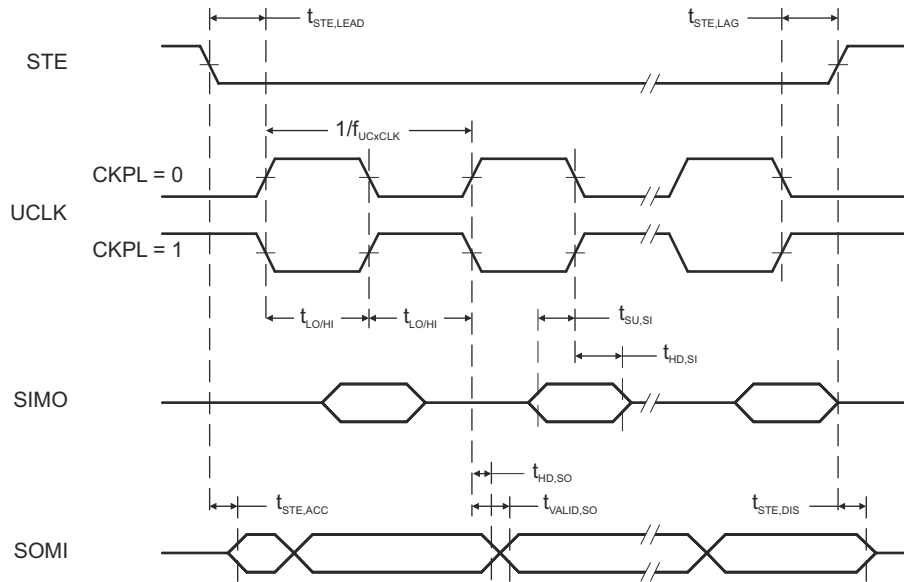
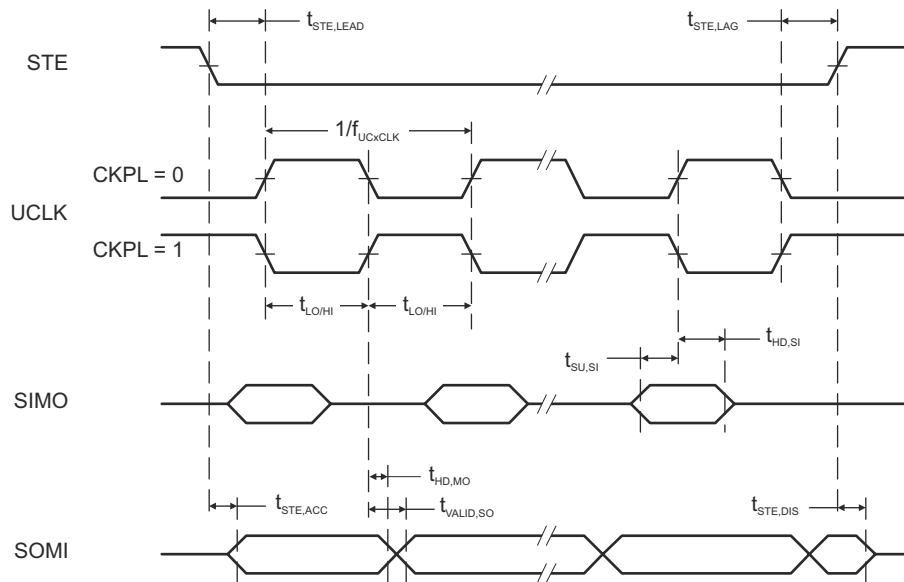

Figure 8-13. SPI Slave Mode, CKPH = 0
Figure 8-14. SPI Slave Mode, CKPH = 1
(see Figure 8-13 and Figure 8-14)
- (2) Specifies the time to drive the next valid data to the SOMI output after the output changing UCLK clock edge. See the timing diagrams in Figure 8-13 and Figure 8-14.
- (3) Specifies how long data on the SOMI output is valid after the output changing UCLK clock edge. See the timing diagrams in Figure 8-13 and Figure 8-14.